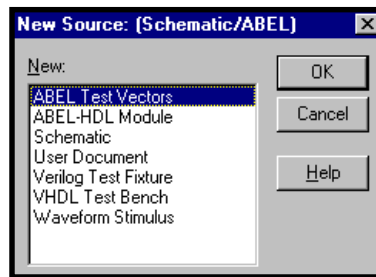

Figure 1-1. New Source Dialog Box
1. Select the **Source** ⇒ **New** menu item from the ispDesignExpert Project Navigator. The New Source dialog box appears, prompting you to choose the type for the new source in your project (Figure 1-1).